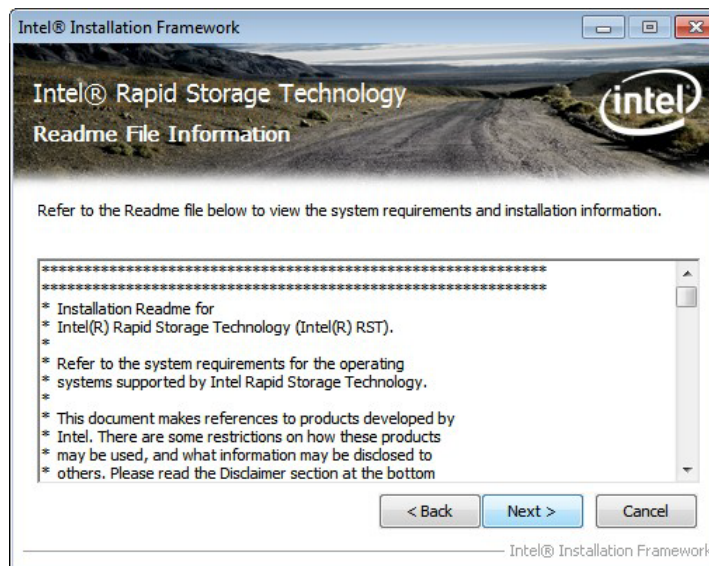

Figure 6-25: SATA RAID Driver Read Me File
Step 9: The **Read Me** file in **Figure 6-25** appears.